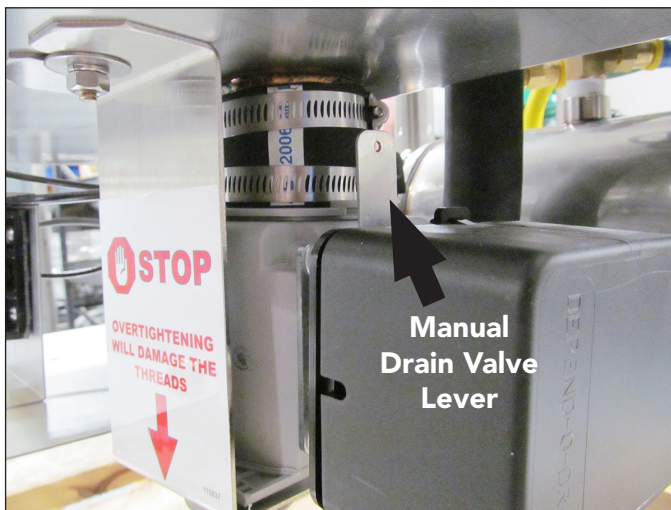

Fig. 6
1. Push the power button OFF. The electric drain valve will open and the machine will drain. The drain valve will remain open for 10 minutes. The drain valve has a lever to open it manually if necessary (Fig. 6).